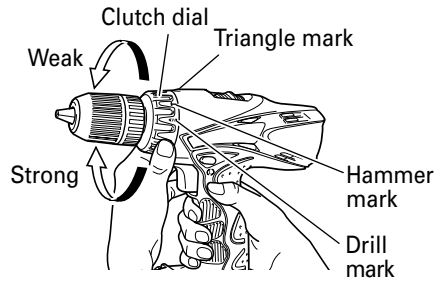

Fig. 6
- Confirm the clutch dial position (see Fig. 6) The three modes of screwdriver, drill and hammer drill can be switched by the position of the clutch dial in this unit.
3. Rotation to Impact changeover (See Fig. 6)